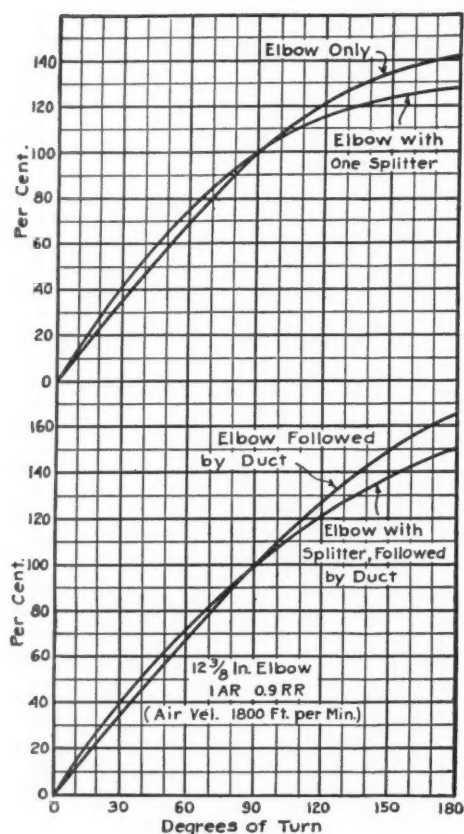

Fig. 10. Effect of Only the Elbow Angle in Per Cent of the Loss for a 90-Deg. Elbow.
It has been assumed generally that the pressure loss through an elbow is directly proportional to the angle through which the turn is made. This is approximately true for 45-deg. and 90-deg. turns. If a large angle is used, there is a marked change in the proportionality as indicated by the curves in Fig. 10. This is not unreasonable in view of the fact that the air near the latter part of the turn has a flow materially different from that at the beginning of the elbow, which flow is assumed to be straight. During the first part of the flow
in the elbow, a double spiral movement is formed which must be accelerated from zero. Later in the turn, the spiral movement has become more definitely established and requires less energy to maintain it. The curves in Fig. 10 show the effect of the degrees turn on the pressure loss in (1) an elbow with free discharge, (2) elbows followed by ducts, and (3) elbows with a splitter. These curves are based on tests of 12 $\frac{3}{8}$ -in. elbows having a radius ratio of 0.9 and an aspect ratio of unity. From the previously mentioned theory it
The curves in Fig. 10 are factor curves for degrees turn only. Thus the loss in a 180-deg. elbow with a splitter is not just slightly less than such an elbow without a splitter, but rather is slightly less in proportion than the loss in the respective 90-deg. elbow; in both cases the splitter materially reduced the elbow loss as explained later.